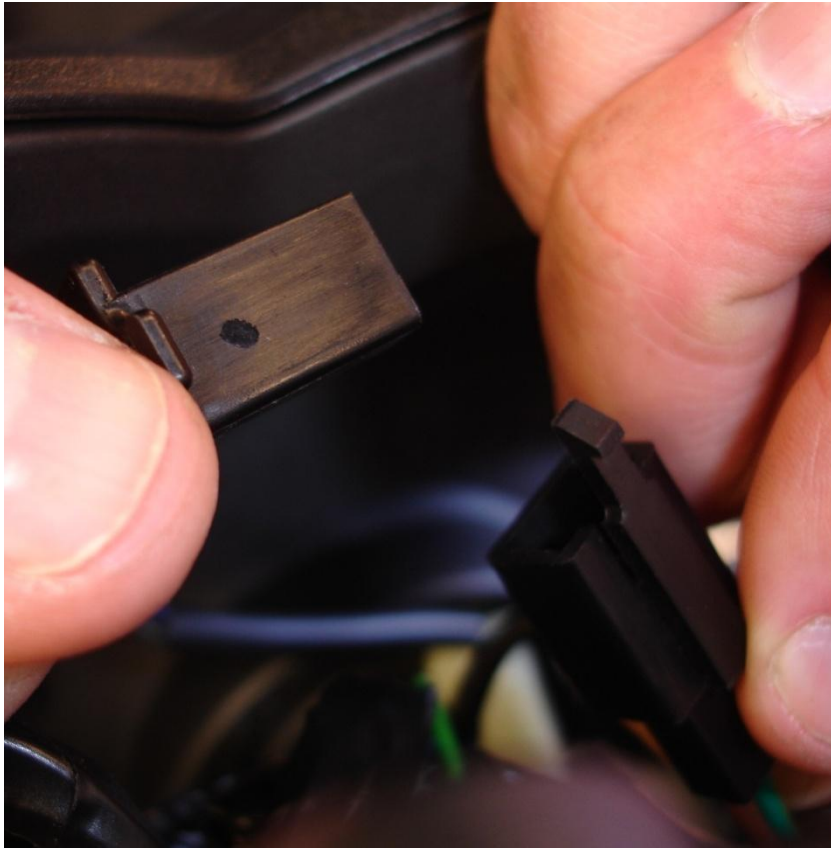

Figure 3
5. Separate connector. Note the *brown and green wires* lead to the lever side of the brake switch. See FIGURE 3.